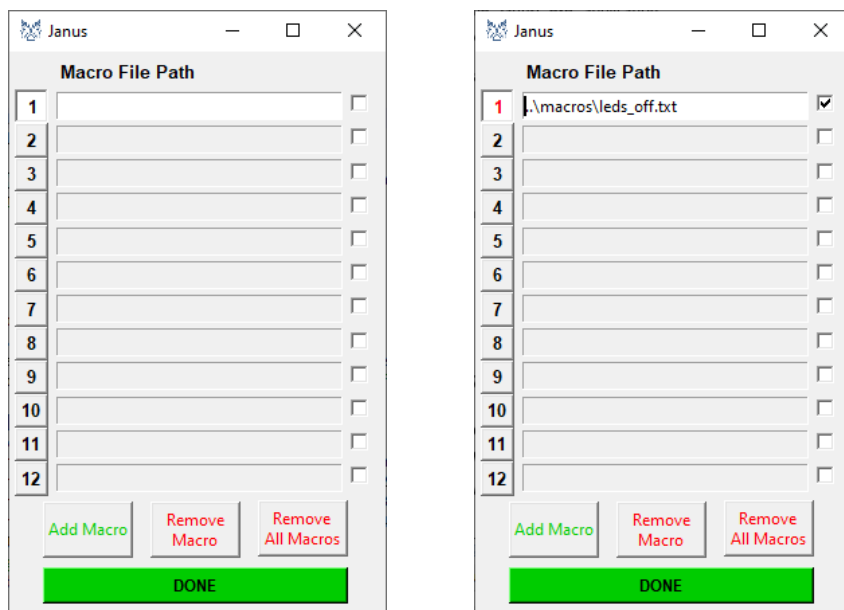

Fig. 3.3: "Load Macro" window.
- *Load Macro:* Additional settings can be loaded by means of a .txt file and appended in the configuration of FERS (see **Fig. 3.3**). See for example, in the "macros" folder, the file "leds_off.txt". To select a macro, click on "Add Macro" button and select the specific file. Once ready, press the "DONE" button to upload the macro. Finally, click on "Remove Macro" and "Remove All Macros" to remove one selected macro or all macros, respectively.